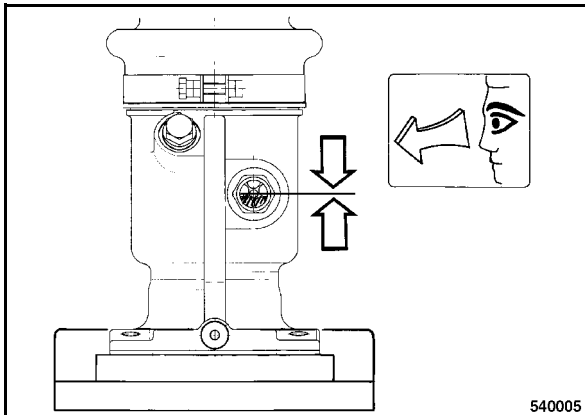

Fig. 41
- Clean the sight glass (Fig. 41).